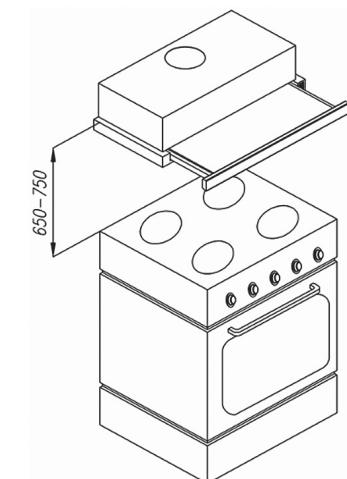

Fig. 3
- Put the unit on the lower edge of the upper cupboard of the kitchen set. Check the minimum required height according to Fig. 3 (650 mm for electric, and 750 mm for gas hotplates).